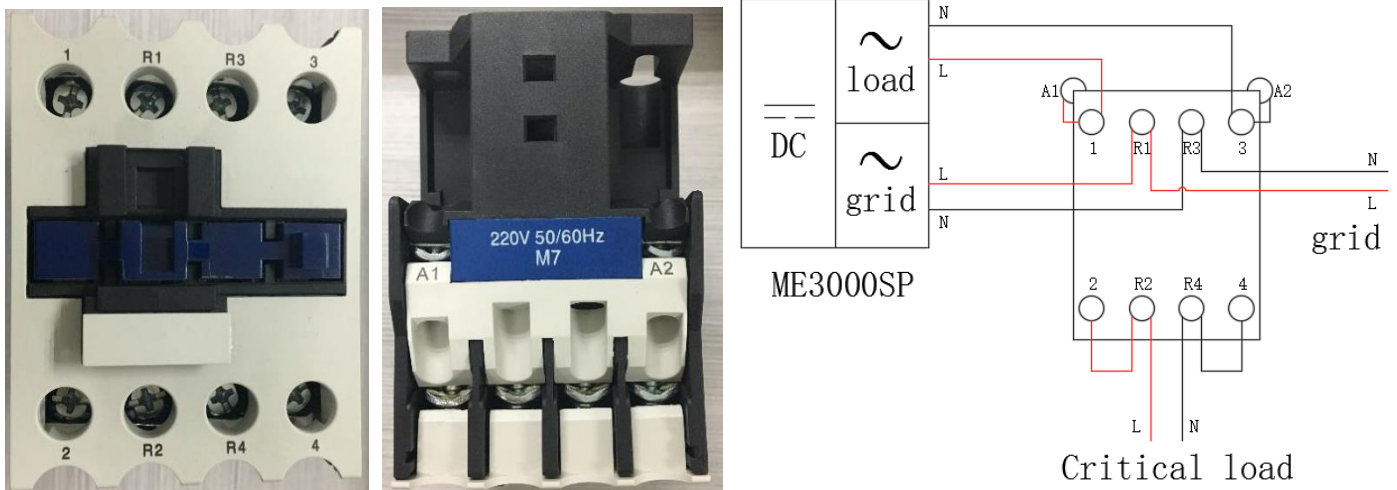

Fig. 12 AC contactor front view, top view, and connection
6. AC contactor (if present) is correctly connected (fig. 12);